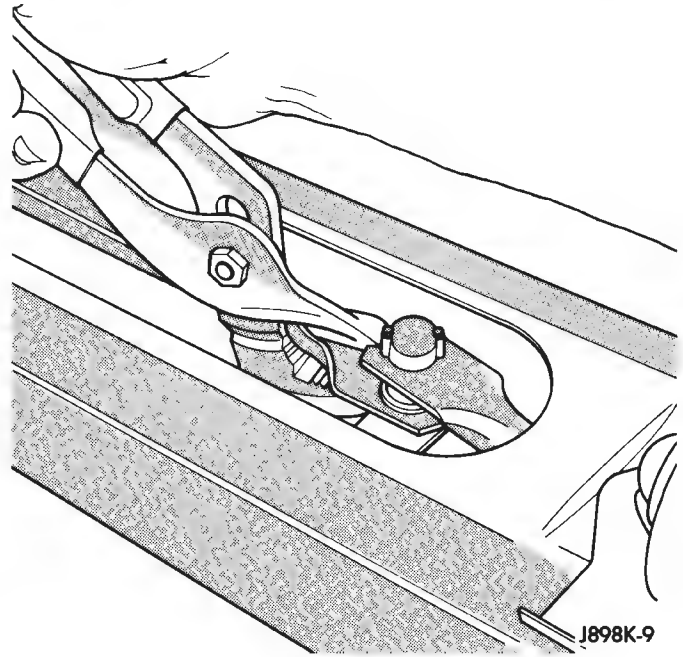

Fig. 12 Connect Drive Link To Pivot Shaft
- (14) Install motor and drive link in windshield frame.
- (15) Install weatherstrip screws.
- (16) Connect wiper drive link to pivot shaft (Fig. 12).
- (17) Install motor mounting screws. Tighten screws to 10.5 N·m (96 in. lbs.).